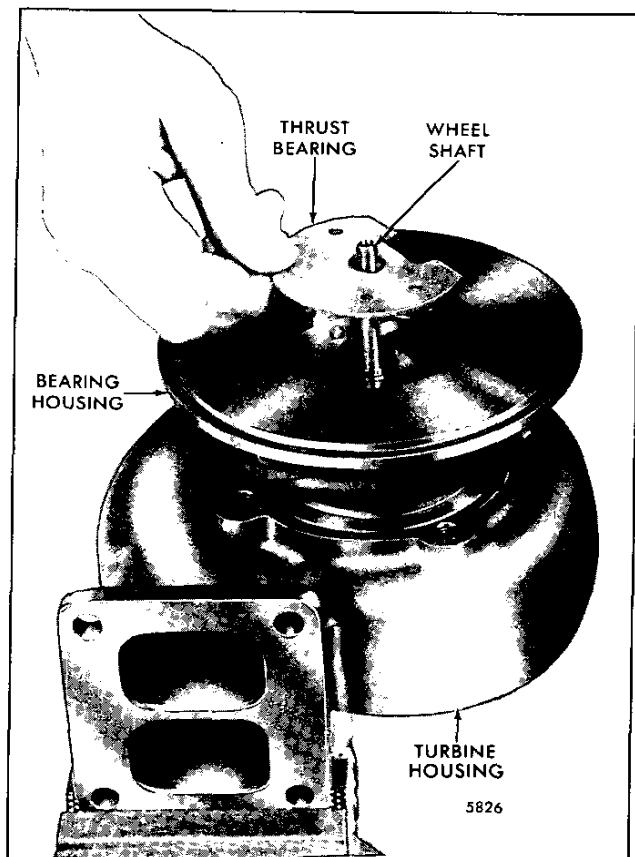

Fig. 16 – Install Thrust Bearing in Bearing Housing
7. Lubricate the thrust faces on both side of the thrust bearing and install the bronze side of the bearing over the shaft and groove pins, engaging the pins to the holes in the thrust bearing (Fig. 16).